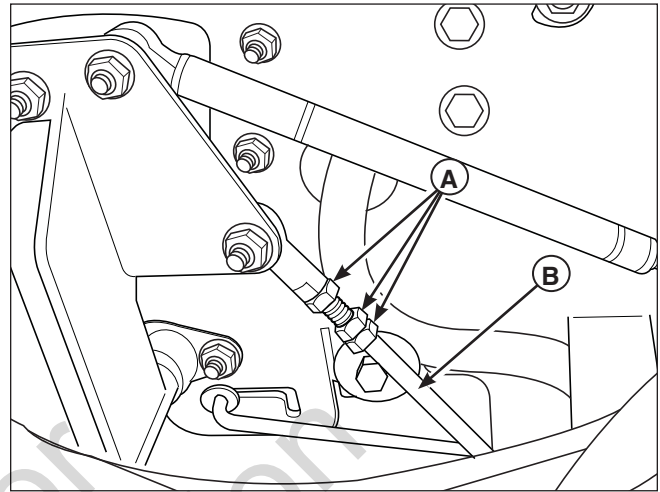

Figure 35. Return-to-Neutral Adjustment
3. Move the ground speed control levers out towards the neutral position. If the levers do not align with the notches in the neutral lock plate, it is necessary to adjust the neutral return rod (B, Figure 35).
2. There are three jam nuts (A, Figure 35) on the linkage rod (B). The first two are used together to turn the rod and the third (towards the front of the machine) is used to lock the rod in place. Loosen the jam nut that locks against the ball joint and turn the linkage rod to adjust. If the machine creeps forward, turn the linkage rod **CLOCKWISE** (while standing at the rear of the machine, facing forward). If the machine creeps backward, turn the rod **COUNTER-CLOCKWISE**.
3. Lock the jam nut (A) against the ball joint when neutral is achieved.